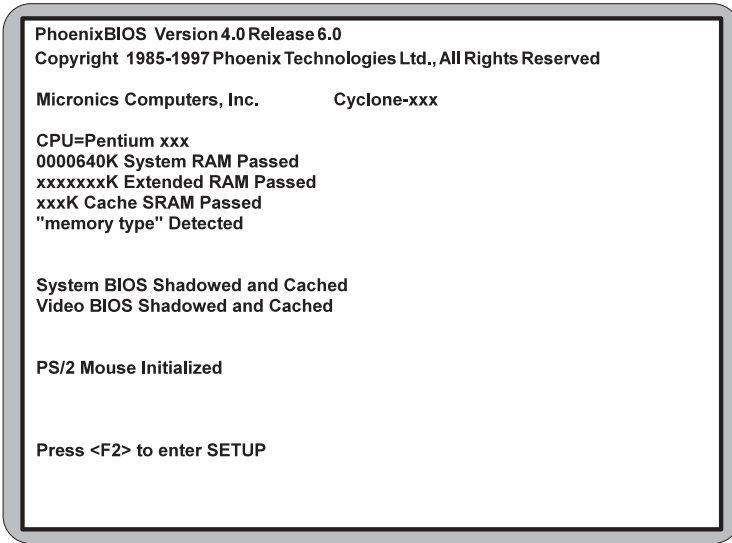

Figure 1.1: Power-Up Screen
10. Turn the computer on and press the <F2> key when you see the screen shown in Figure 1.1.